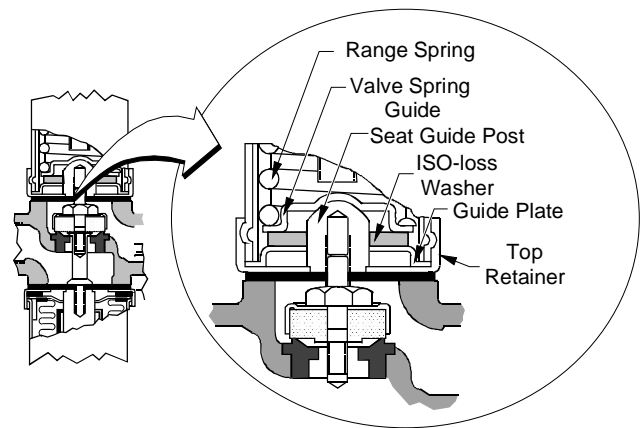

**Figure 6: V46 and V47
4. Remove the seat guide post (Figure 6).
5. Remove the rubber diaphragms (Figure 6).
6. Turn the disc stud counterclockwise to remove the valve stem assembly (Figure 6).
8. Using the seat wrench supplied with the kit, remove old valve seat and replace with the new valve seat (Figure 6).
9. Assemble the new valve stem, disc, disc cup, and disc stud, and place into the valve body (Figure 6).
11. If servicing a V47 or V46 valve other than low flow, place new diaphragms on the sensing element end of the valve stem assembly. Use two diaphragms on 3/8 in., 1/2 in., and 3/4 in. valves and three diaphragms on 1 in. and larger valves. Screw into place with the bellows push rod. Attach the sensing element to the valve body. See Figure 6.